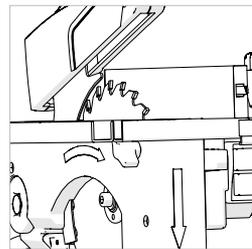

Fig. 21
- Slide the Fence Assembly up to the blade, raising the Blade Guard by hand so that the Face Plate rests alongside the blade and underneath the Blade Guard. (**Fig.21**)